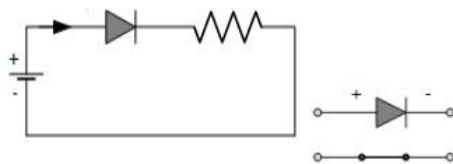

Fig. 1: Forward Bias Condition
1. Connect the circuit as shown in Fig.1 (PN Junction diode with milli-ammeter in series with the diode).